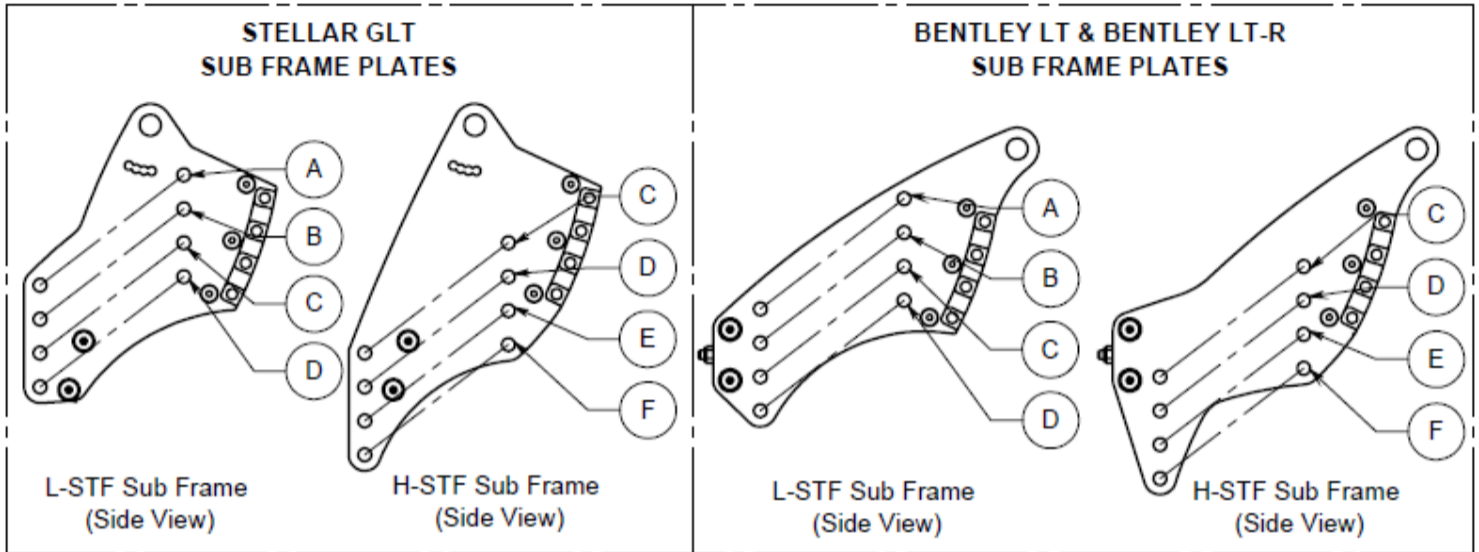

Figure 16.7: Seat to floor sub-frame positions
4. Reposition the sub frame onto the lower frame. There are multiple seat height options for each chair. Refer to Figure 16.7 , Table 16.1 and Table 16.2. Once the lower seat height holes on the sub frame and lower frame are lined up, insert the bolt on each side of the frame. This will help with the alignment of the frames. Then refit the upper seat height bolt.